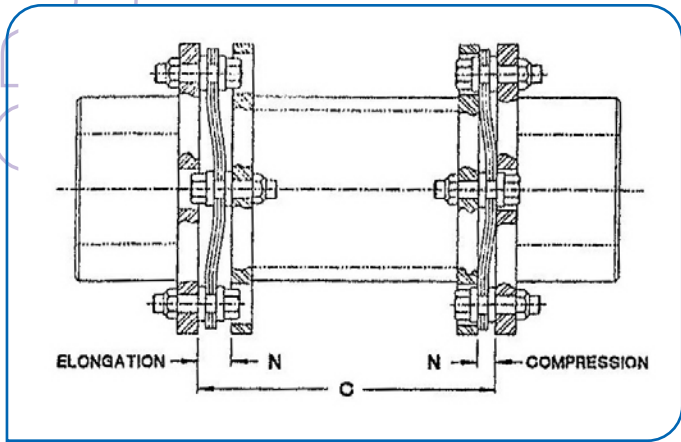

Figure 4 Wavy disk packs on both ends of the coupling. One end is compressed, and the other is elongated.
5. Wavy disk packs on both ends of the coupling. One end is compressed, and the other is elongated. See Figure 4. This is called “oil canned” disk packs. The disk pack has no neutral center where it remains flat and parallel with the end flanges. Loosen all locknuts, correct the axial spacing, and tighten the locknuts. If this doesn’t resolve the problem, the disk packs might have been permanently deformed. Replace the disk packs and reassemble the coupling.